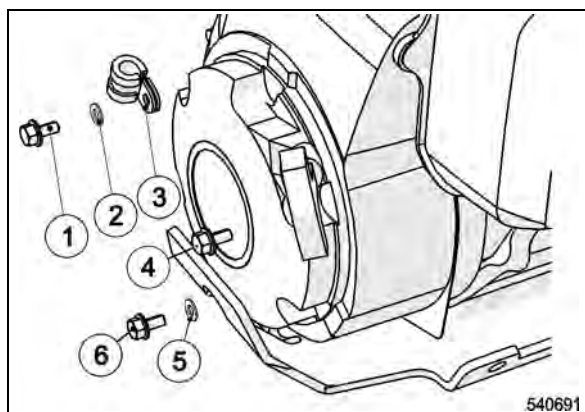

Fig. 50
- Insert the screw M6x12 (1) (Fig. 50) with washer (2) and clamp (3) into the recoil starter.
- Insert the screw M6x16 (6) with washer (5) and engine guard holder into the recoil starter.
- Insert screw M6x8 (4) into the recoil starter.
- Tighten screws (1), (4) and (6).